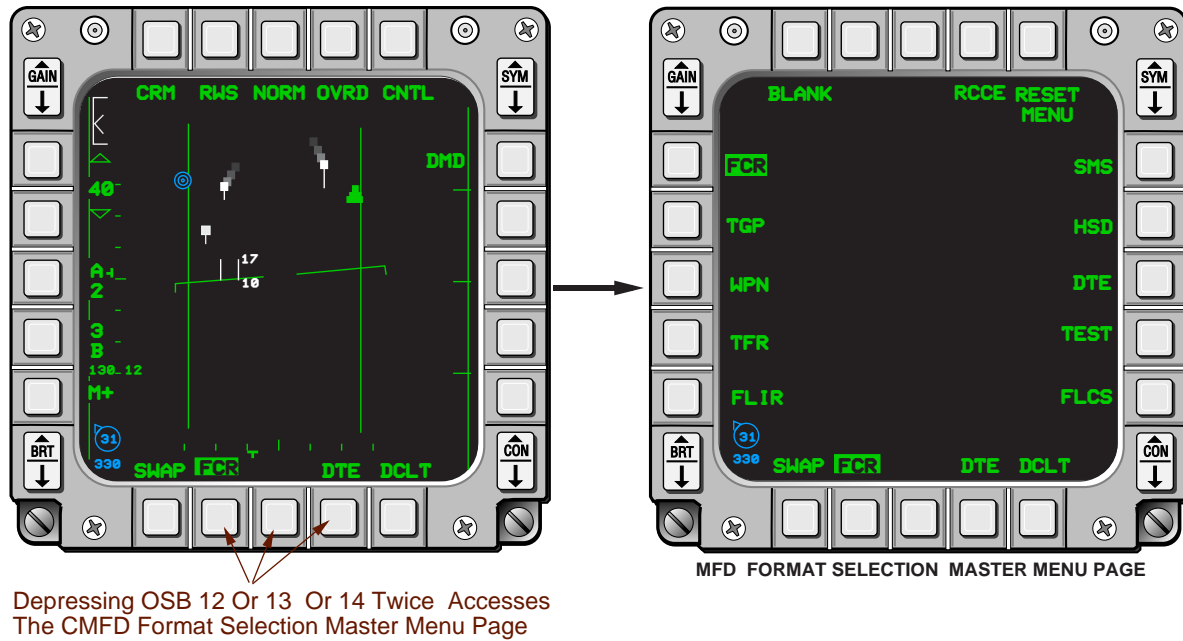

Figure 1-15 CMFD Format Selection Master Menu
**Format Selection.** CMFD formats are selected from the three display format options above OSBs 12, 13, and 14 on each CMFD. Display format options may be assigned to OSBs 12, 13, and 14 through the DTE load or manually by the pilot. The active display format option is highlighted on each CMFD, and other formats may be selected by pressing the OSB below it, or by left or right movement of the DMS on the Side Stick Controller (SSC). Right movement of the DMS cycles through the three display format options on the right CMFD and left movement on the DMS cycles through the three display format options on the left CMFD. Display format options may be manually assigned by selecting the highlighted option followed by selecting the desired new format option from the Multifunction Display (MFD) Format Selection Master Menu page (Figure 1-15). The old format will then be replaced with the newly selected format from the menu page. Of the six available display formats, three for each MFD, no format except BLANK may be displayed in more than one location simultaneously. If the pilot attempts to assign a format that is already displayed on either MFD, it will be replaced with BLANK.